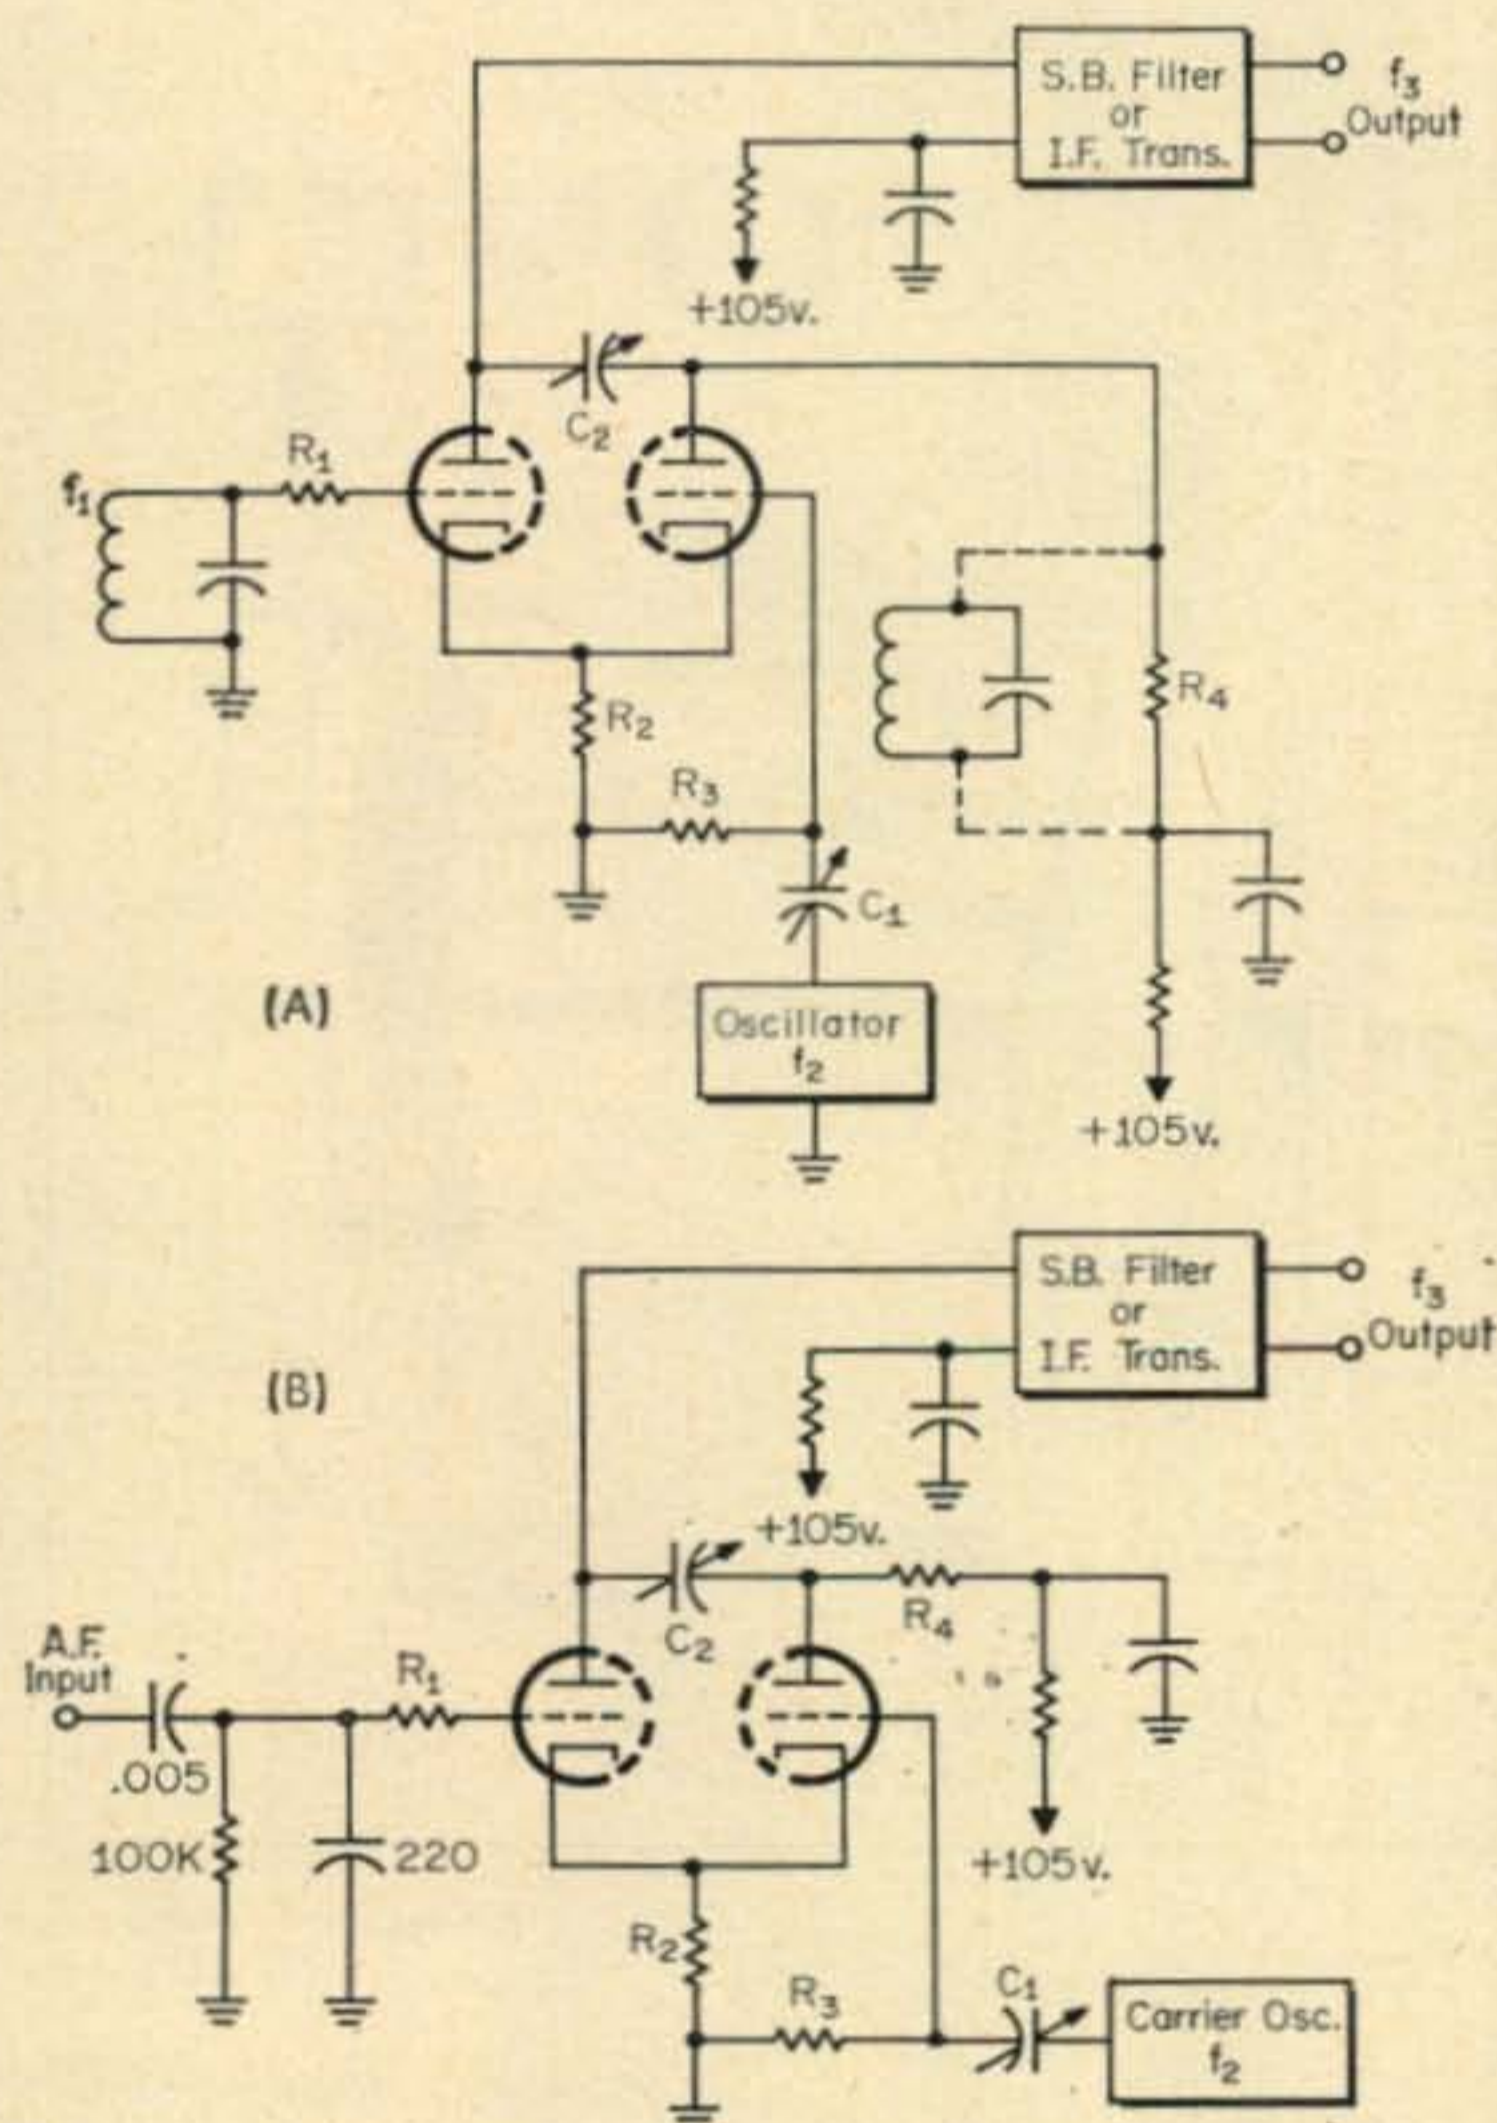

Fig. 5—Circuits of a dual triode suppressed carrier sideband generator.
The dual triode can be used as a balanced mixer or sideband generator as shown in figs. 5 (A) and (B). The advantage of this system is
that no push-pull circuits are needed. The carrier frequency energy is balanced out of the output fairly well by means of a small capacitor, C_2 in either (A) or (B). The oscillator voltage into the grid is about 180° out of phase in the plate circuit and in phase through the cathode circuit around to the mixer plate circuit. By making C_2 a small variable, these two voltages can be balanced out so no carrier frequency is left across the mixer load circuit. In practice, good balance is difficult to achieve but by varying the value of R_4 , C_1 and C_3 , the balance can be as much as 20 to 30 db down from the sideband. If the sideband filter has the carrier frequency at a point of -20 or -30 db down from the sideband frequency, the total carrier attenuation can be very good. The sideband generator of fig. 5(B) was used in a homemade s.s.b. unit at
The type of circuit shown in fig. 5(A) was used in succeeding mixers in this generator. As the frequency of operation reached above 14 mc, a small tuned circuit was added across R_4 in order to achieve better phase relations in the balancing circuit. The oscillator voltage only had to be attenuated about 10 or 15 db more than was provided by the following tuned circuits. This could be done in the dual triode mixer by using a balancing circuit as outlined in fig. 5(B).